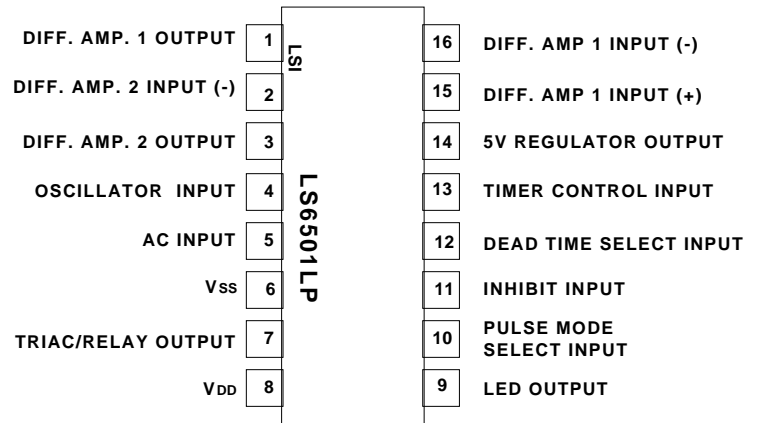

FIGURE 1
- LS6501LP-SW (SOIC-WB) - See Figure 1